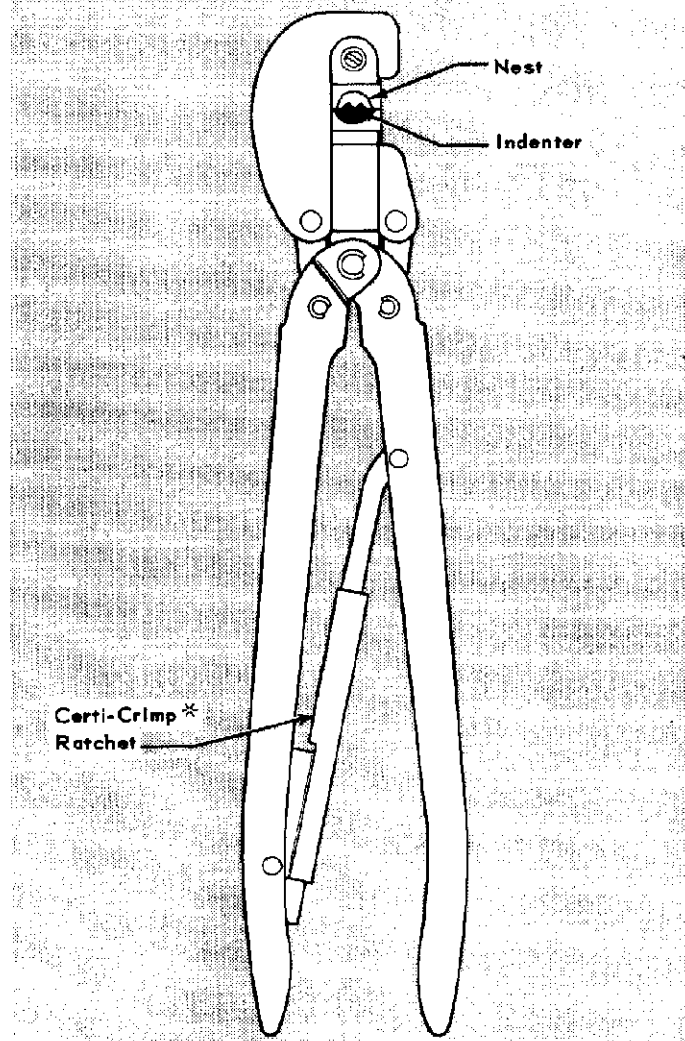

Fig. 7
- (c) Open Tool Handles by closing them until Certi-Crimp Ratchet, shown in Figure 7, releases. Note that once Ratchet is engaged, Handles cannot be opened until they are fully closed.